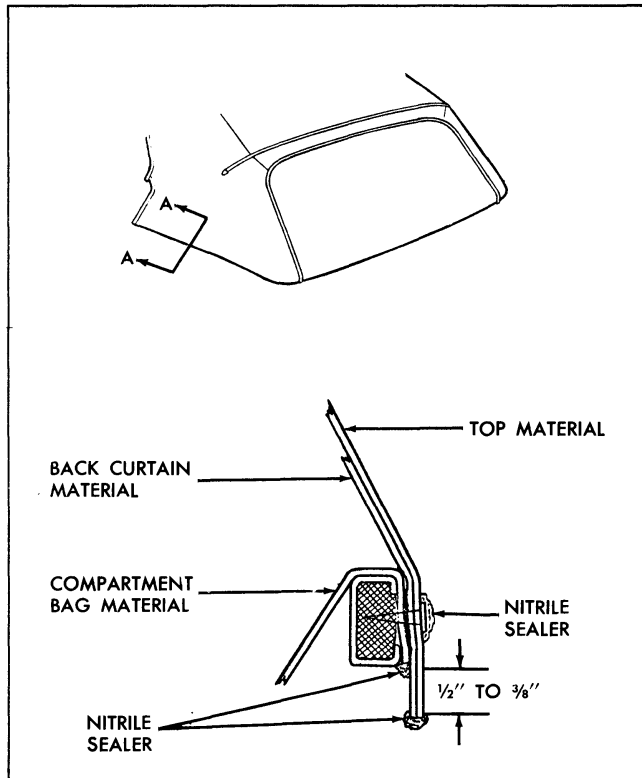

Fig. 22-50 Sealing At Trim Sticks
42. Remove trim sticks with attached top material from top compartment well. Back curtain should extend 1/2" below trim sticks on "Y" styles. (See step 9 of installation procedure.) In addition, top material must extend 1/2" to 5/8" below trim sticks on "Y" styles, to minimize water wicking on inner lining of back curtain material. (See view "A-A" in Fig. 22-50). Trim top material as required.
each trim stick attaching bolt hole. See view "A-A" in Fig. 22-50.